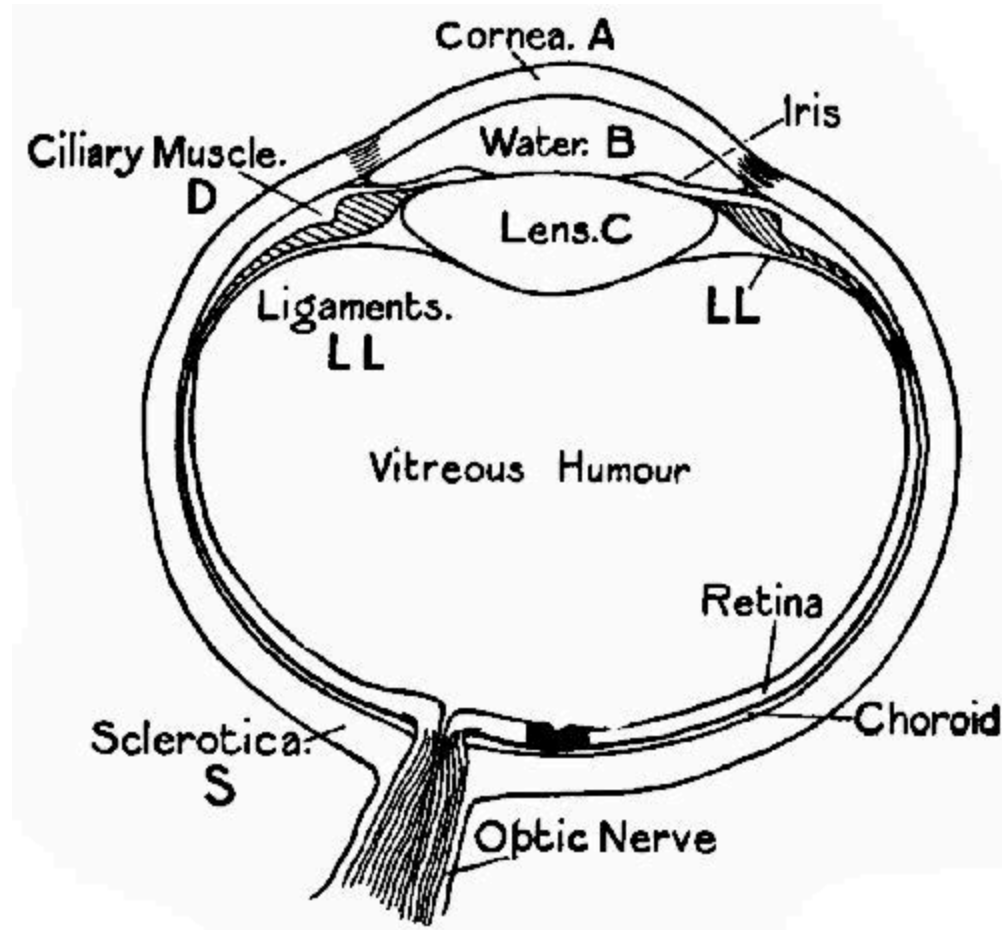

FIG. 116.—Section of the human eye.
The eye (Fig. 116) is nearly spherical in form, and is surrounded outside, except in front, by a hard, horny coat called the *sclerotica* (s). In front is the *cornea* (A), which bulges outwards, and acts as a transparent window to admit light to the lens of the eye (C). Inside the sclerotica, and next to it, comes the *choroid* coat; and inside that again is the *retina*, or curved focussing screen of the eye, which may best be described as a network of fibres ramifying from the optic nerve, which carries sight sensations to the brain. The hollow of the ball is full of a jelly-like substance called the *vitreous humour*; and the cavity between the lens and the cornea is full of water.
Returning for a moment to the diagram of the eye (Fig. 116), we notice a black patch on the retina near the optic nerve. This is the "yellow spot."